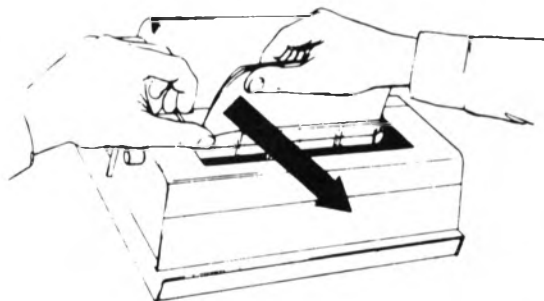

Figure 3-8 Multi-Copy Removal
- (1) Place the thumb of your left hand on the printer cover while holding the papers *entering* the teleprinter (from the paper roll) with the fingers of the *same* hand. (This will keep paper from feeding through the machine during the tearing-off process.)
- (2) While pressure is being applied by the left hand, grasp the left corner of the paper *leaving* the teleprinter with your *right* hand, and pull smartly forward and to the right against the viewing window (see Figure 3-8). The resulting separation will be straight and parallel to the lines of copy.